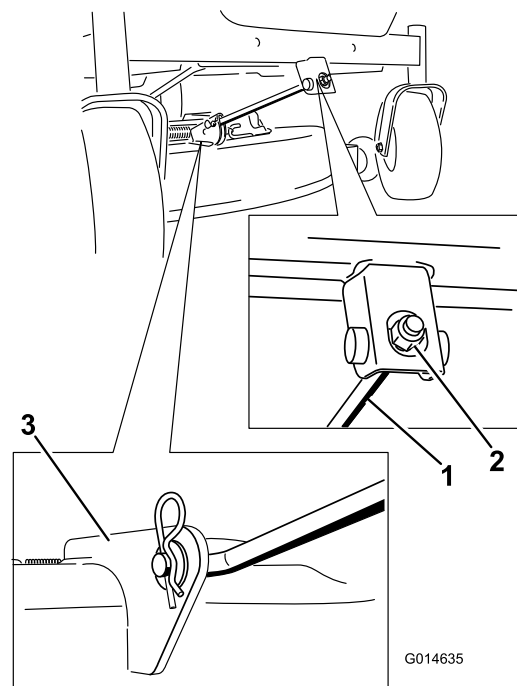

Figure 58
4. Remove the hairpin cotter from the front support rod, and remove the rod from the deck bracket (Figure 58).
- Attach the front support rod to the mower deck with the clevis pin and hairpin cotter (Figure 58).